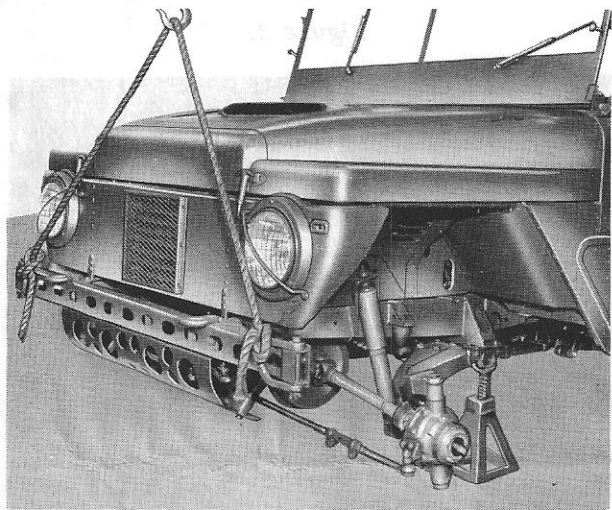

Figure 6.
- Resume raising vehicle to bring underside to a convenient working level. Utilize safety stands and/or blocks as required (fig. 6).